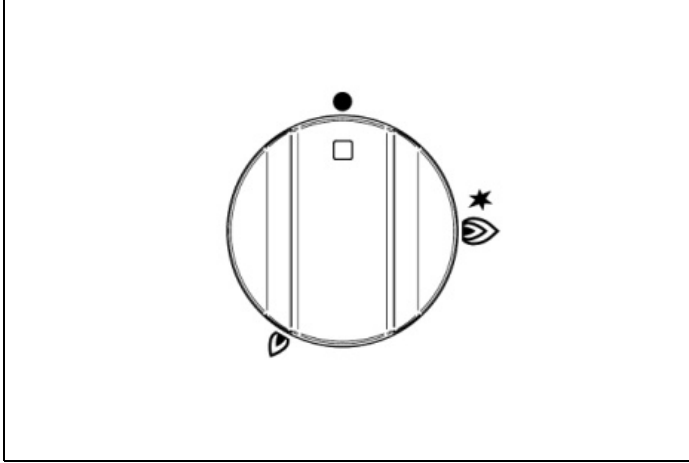

Fig. 16
- To light the burner, press the control knob (Fig. 16 eFig. 17) and turn it counterclockwise to the MAXIMUM position (large flame).